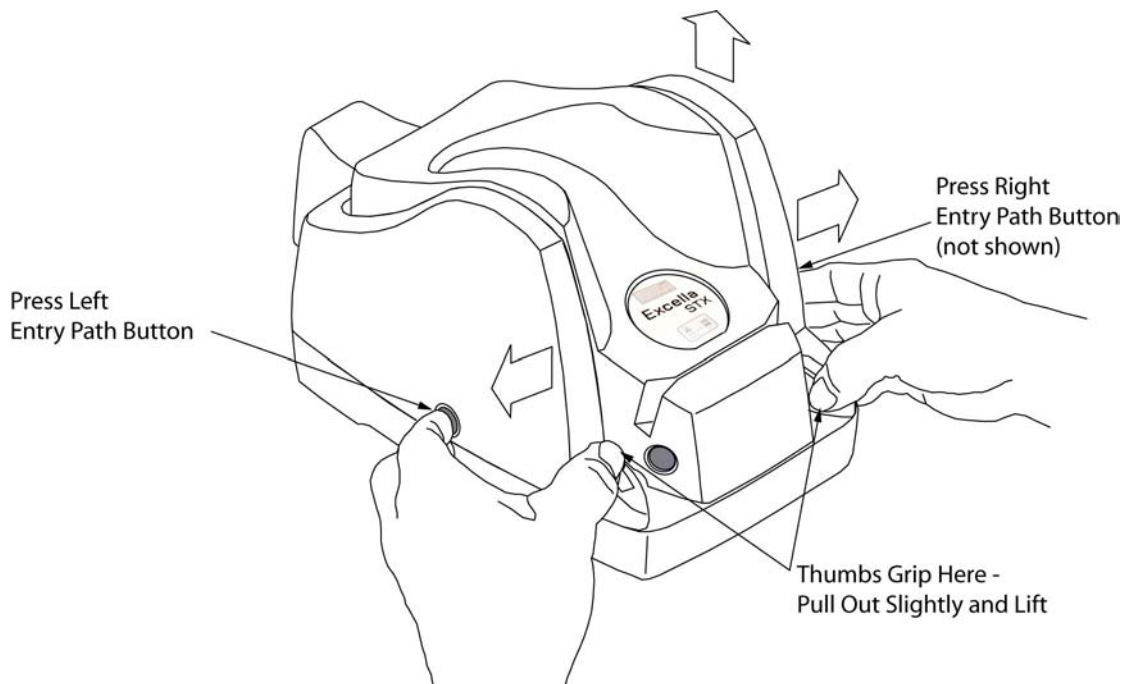

Figure 2-1. Outer Cover Removal
1. Using both hands, place two index fingers on the release buttons and two thumbs on the inner race of the **Outer Cover** as shown in Figure 2-1. (The left **Release Button** is shown; the **Right Release Button** is directly opposite.)
1. Place two index fingers on the **Release Buttons** and two thumbs on the inner race of the **Outer Cover** as shown in Figure 2-1.
2. As indicated in Figure 2-1, press the two **Release Buttons** in, and at the same time slightly pull the two inner race segments out.